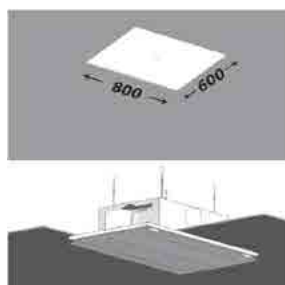

FIG.20
- › Fix the long screws into the metric plug, install the hood on the ceiling as shown in Fig.20. The false ceiling (plasterboard) must remain above the wider part of the hood.